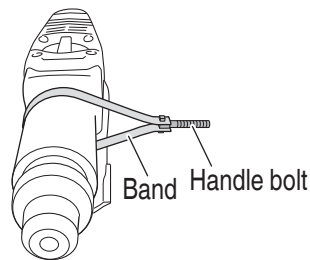

**Fig. 1**
- (1) Check that you have all the parts of the Side Handle. (**Fig. 1**)